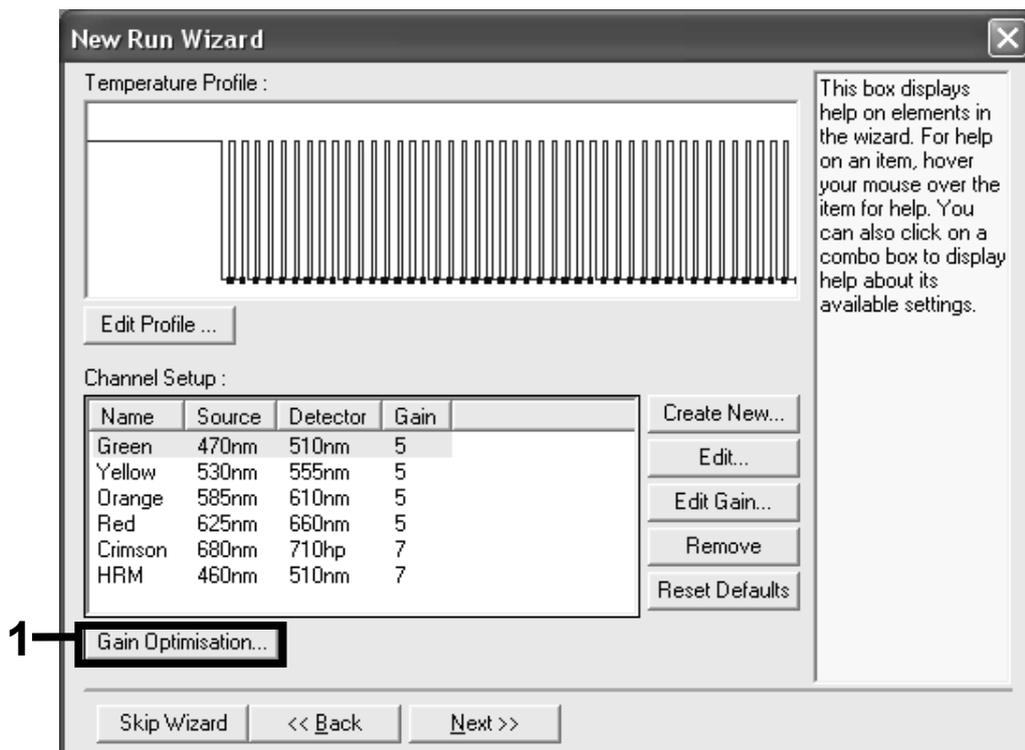

Figure 10. Gain optimization.
17. In the next dialog box, click the "Gain Optimisation" button (Figure 10).